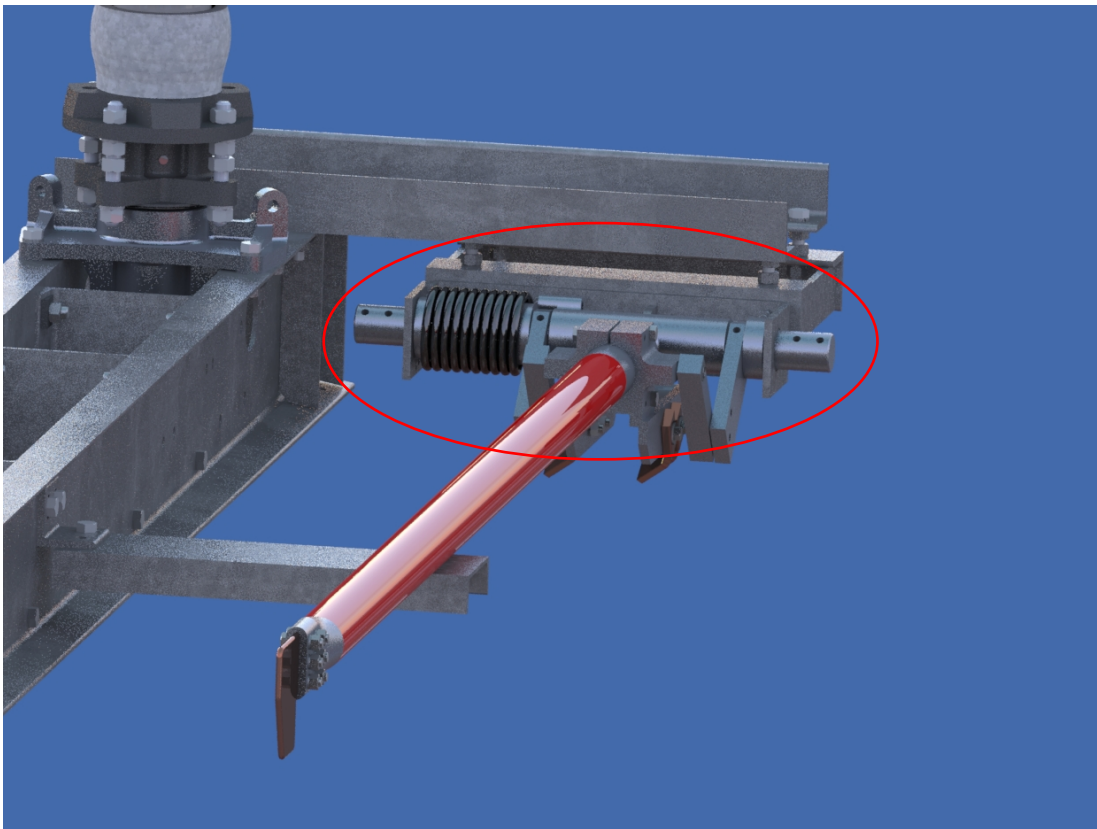

Figure 1: Blade and Blade clamp
- 1.3. In the open position install the ground blade ensuring the blade tip is vertical, with the flat part toward the jaw. Insert the blade fully onto support shaft but adjustment may be necessary later. Tighten the blade clamp bolts. Refer to **Figure 1**.